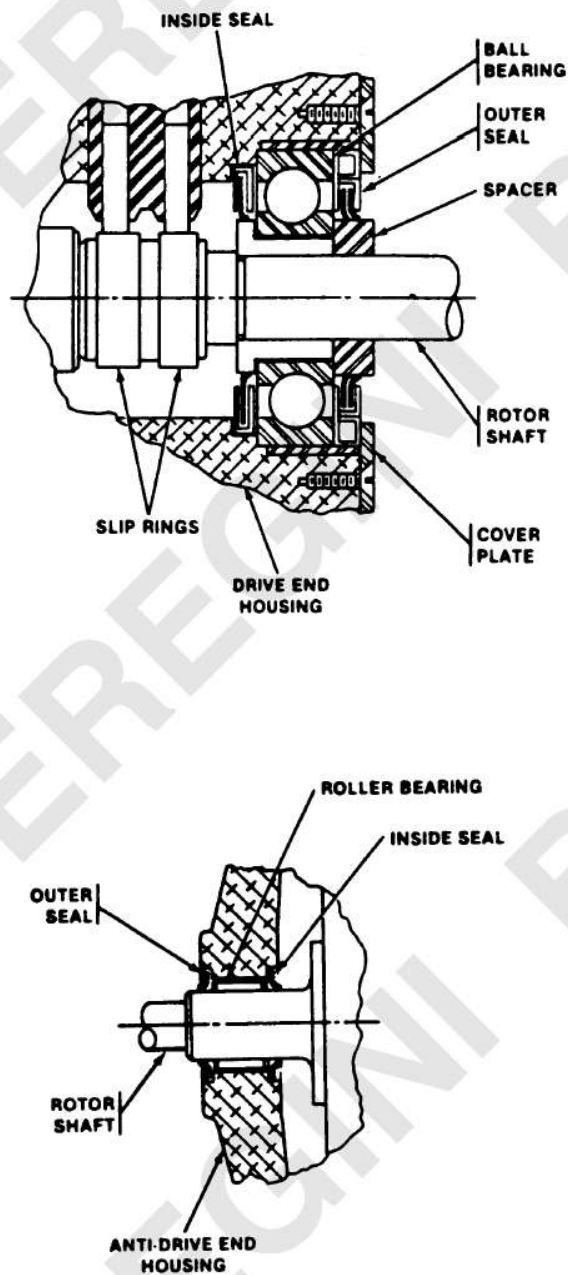

Figure 3-8. Proper Seal Lip Positions.
(b) Place inside seal (22) in position on seal bore with seal lips flaring up. See figure 3-8 for proper seal lip position.
While applying grease, use finger to form the seal lips of inside seal as shown in **figure 3-8**.
(a) Apply a thin film of grease (item 4, App B) to lips of outer seal (24). Place seal in position on seal bore of drive end housing assembly (21) with seal lips flaring up. See figure 3-8 for proper seal lip position.
(c) Apply thin film of grease (item 4, App B) to lips of inside seal (10). Place seal in position on the seal bore of anti-drive end housing (9) with seal lips flaring inward, toward rotor (14). See figure 3-8 for proper seal lip position.
(f) Apply thin film of grease (item 4, **App B**) to lips of outer seal (11). Place outer seal in position on the seal bore of anti-drive end housing (9) with seal lips flaring outward, away from rotor (14). See **figure 3-8** for proper seal lip position.